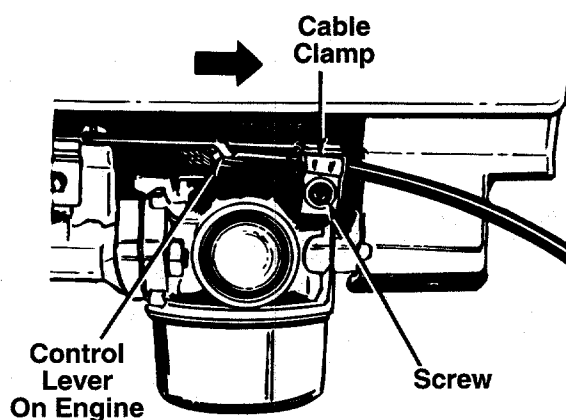

FIGURE 15B.—Tecumseh Engines
**NOTE:** If you have a Tecumseh engine, simply loosen the screw shown in figure 15B so the cable will move freely beneath the clamp. It is not necessary to remove the screw and clamp completely.